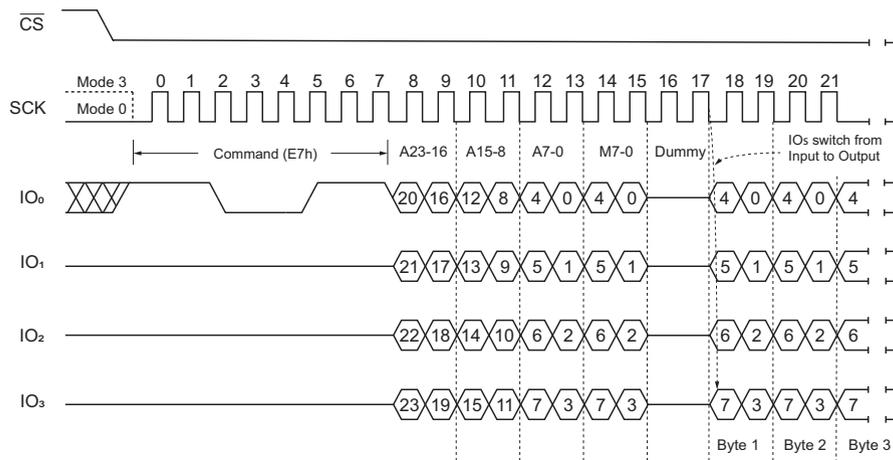

Figure 55. Word Read Quad I/O Command (Initial command or previous set $M7-0 \neq Ah$, SPI Mode)
The Word Read Quad I/O command can further reduce command overhead through setting the Continuous Read Mode bits (M7-0) after the input Address bits (A23-0), as shown in Figure 55. The upper nibble of the (M7-4) controls the length of the next Word Read Quad I/O command through the inclusion or exclusion of the first byte command code. The lower nibble bits of the (M[3:0]) are don't care (X). However, the IO pins must be high-impedance before the falling edge of the first data out clock.